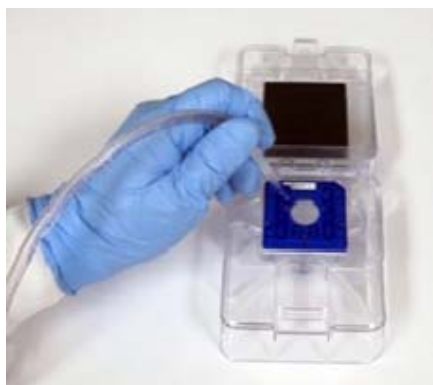

Figure 2. Using a vacuum to aspirate the chip wells is more effective than using a pipette
- 2 Use a pipette tip attached to a vacuum line to thoroughly aspirate all fluid from the chip wells (see Figure 2). For details on how to set up a vacuum line, see page 33.